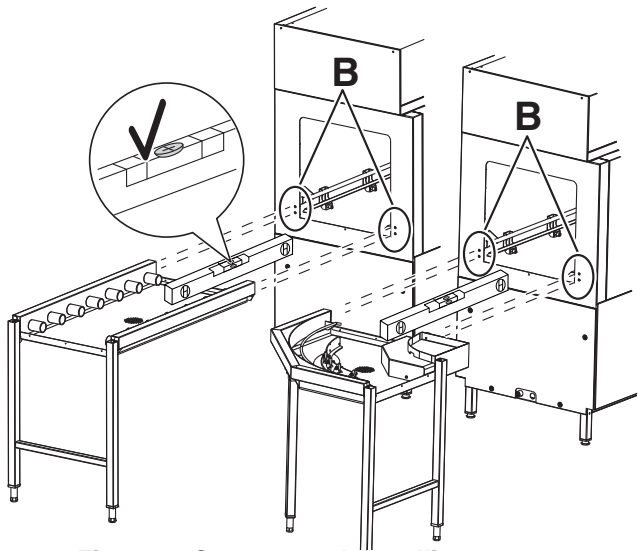
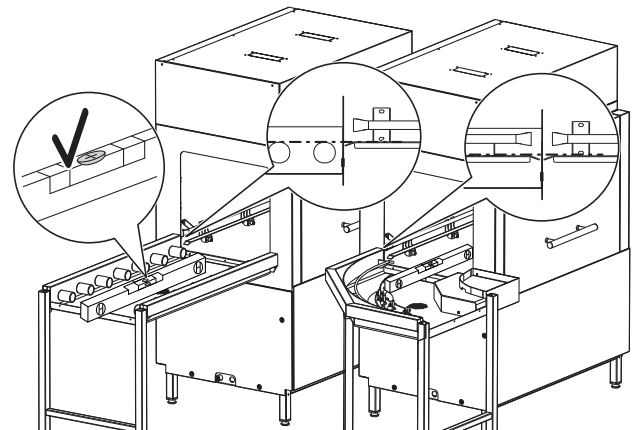

Figure 12 Connect rack handling system
Figura 13 Levelling
- Use the 4 holes, with incorporated nuts (M6), "B" to connect the rack handling system to the dishwasher (Figure 12-Figura 13).